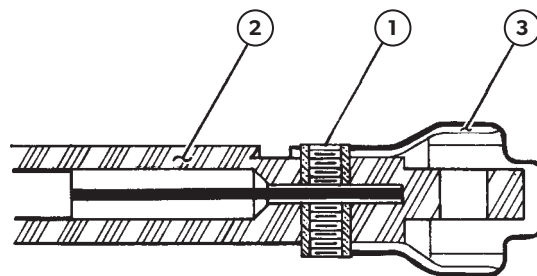

Figure 1.
1. Install clamp insert (item 1) into casing guide (item 2) with small hole for cable core wire aligned with the long axis. The core wire hole is offset and must be oriented as shown in figure 1.
2. In some cases (under 40 HP and on some older models) a latch is required to retain the casing guide to the lever. If required, carefully spread ears of latch (item 3) and snap in place over ends of clamp insert as shown in figure 1.